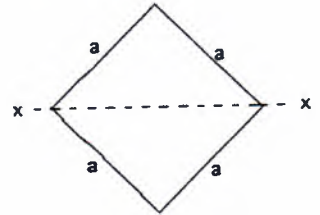

Figure 7
13. The area moment of inertia of a square of size 1 unit about its diagonal of figure 7 is \_\_\_\_\_